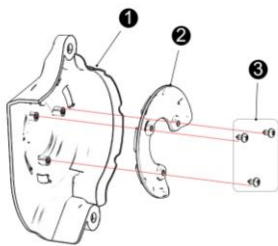

Fig 33
11.3 Disassemble side cover of electrical machine (see Fig 33)